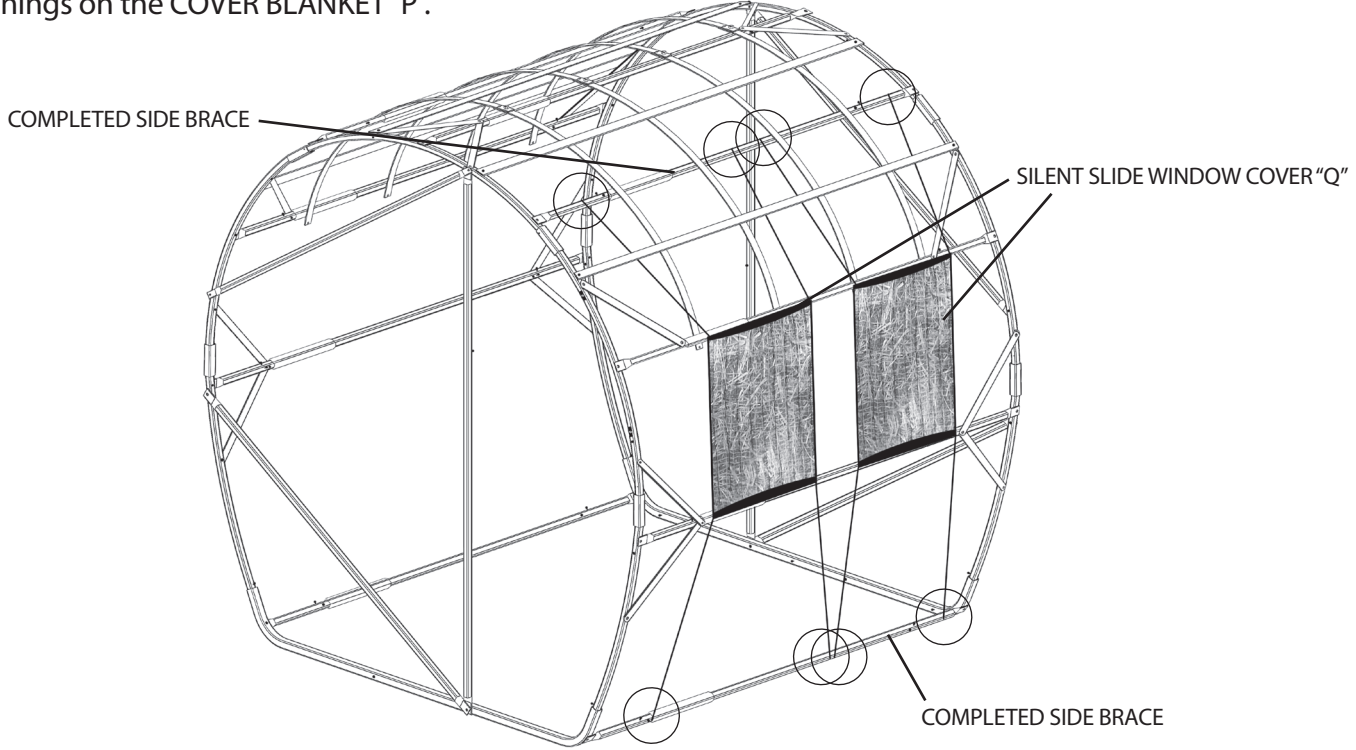

Figure 38.1
STEP 30: Locate the remaining (4) SILENT SLIDE WINDOW COVERS "Q" to be installed for the shooting window openings located on COVER BLANKET "P". Starting at the top, attach each clip to the COMPLETED SIDE BRACE, then repeat the process for the bottom clips, attaching to the bottom COMPLETED SIDE BRACE located on the base of the frame, as illustrated in Figure 38.1. Perform this step for the remaining (4) SILENT SLIDE WINDOW COVERS "Q" to be installed for the window openings on the COVER BLANKET "P".